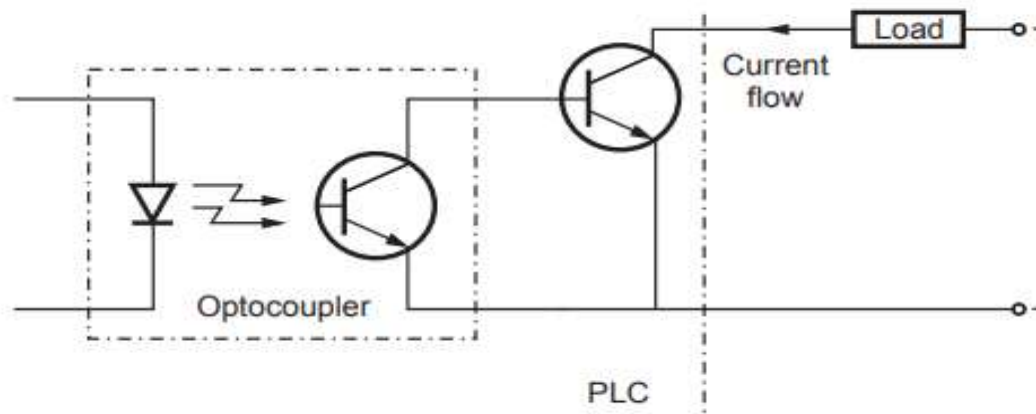

Fig. 4.11.4 Transistor output with current sinking
- Transistor output in current sinking mode is shown in Fig. 4.11.4.